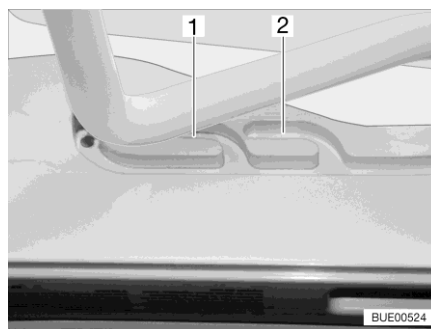
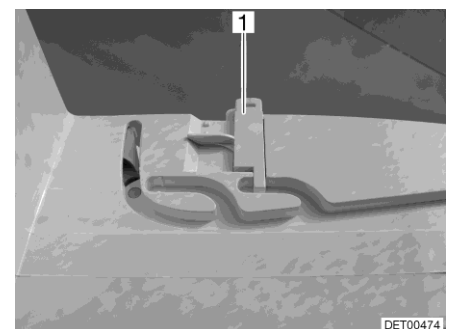

Fig. 33 Guide (ventilation position)
Fig. 34 Lock (ventilation position)
The Heki skylight can be put in two ventilation positions: Bad weather position (Fig. 33,1) and central position (Fig. 33,2). Depending on the model, the skylight can be locked in the central position with both left and right latches (Fig. 34,1) on the skylight frame.
- Push the bar slightly upwards and into the selected guide (Fig. 33,1 or 2) and lock if necessary.